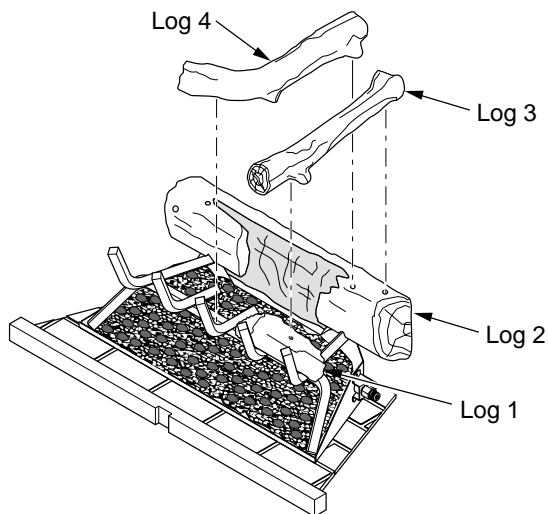
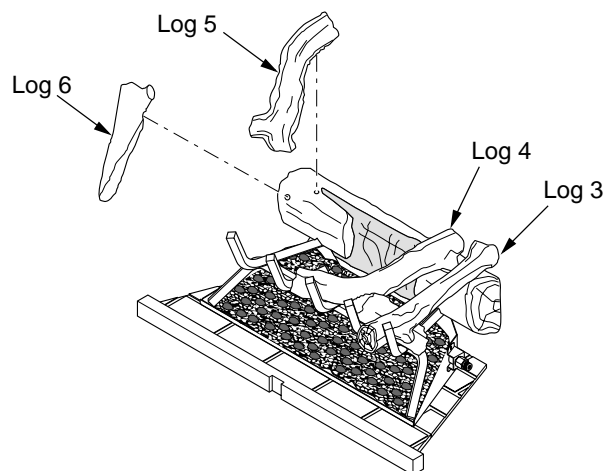
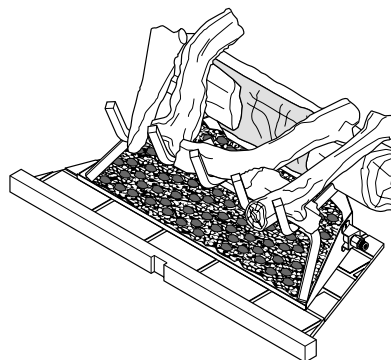

Figure 26 - Installing Logs 3 and 4
Figure 27 - Installing Logs 5 and 6
Figure 28 - Logs Installed for M36/VM36 Models
3. Place log 3 across logs 1 and 2 aligning pegs on log 3 with holes in logs 1 and 2 (see Figure 26).
4. Place the top of log 4 across the right side of log 2, aligning peg in log 4 with hole in log 2 (Figure 26). Rest the front of log 4 on the grate as shown in Figure 27.
5. Align the peg at top of log 5 with the hole on the top left of log 2 (see Figure 27). Rest the bottom of log 5 on grate as shown in Figure 28.
6. Align peg at the top of log 6 with hole on the front left of log 2 (Figure 27). Rest the bottom of log 6 on grate as shown in Figure 28.